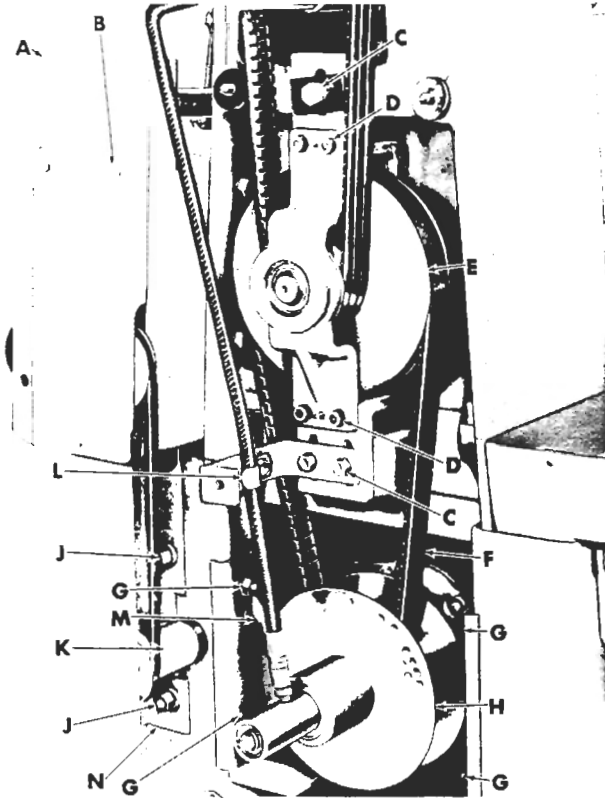

Figure 17
3. Turn variable dial back to lowest speed. Hold there, and pull on outer sheave of lower variable pulley (H, fig. 17) until variable belt (F) is loose.
4. Loosen three screws (C) that hold countershaft assembly to column.